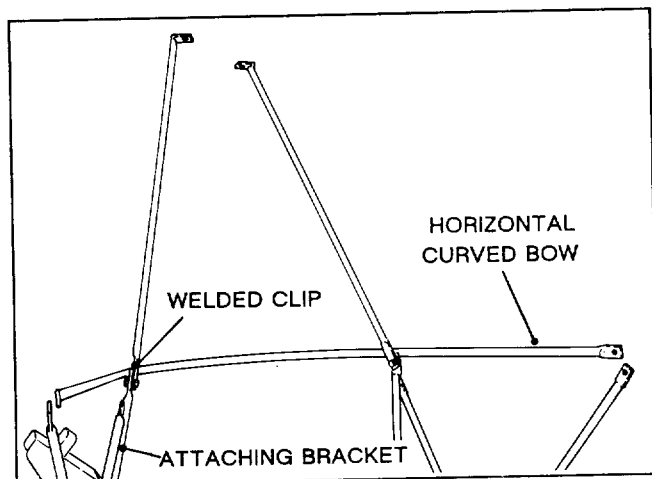

Figure 5
7. Mount horizontal curved bow to front legs of attaching brackets with (2) 1/4-20 x 3/4" lg. capscrews and locknuts, as shown in fig.5. Welded clips on curved bow to be positioned between the post and attaching bracket.